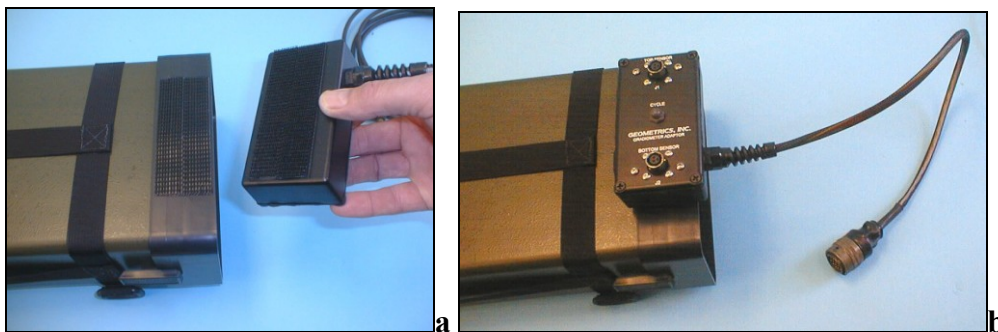

Figure 15. Attach the gradiometer switch box
- 6) The sensor cables may now be connected to the Remote Start Switch box, and the Remote Start Switch box may be connected to the G-856AX front panel connector. As shown in Figure 15, attach the Velcro strip to the top of the G-856AX black front panel bezel. Mount the Remote Start Switch box to this mating Velcro strip.